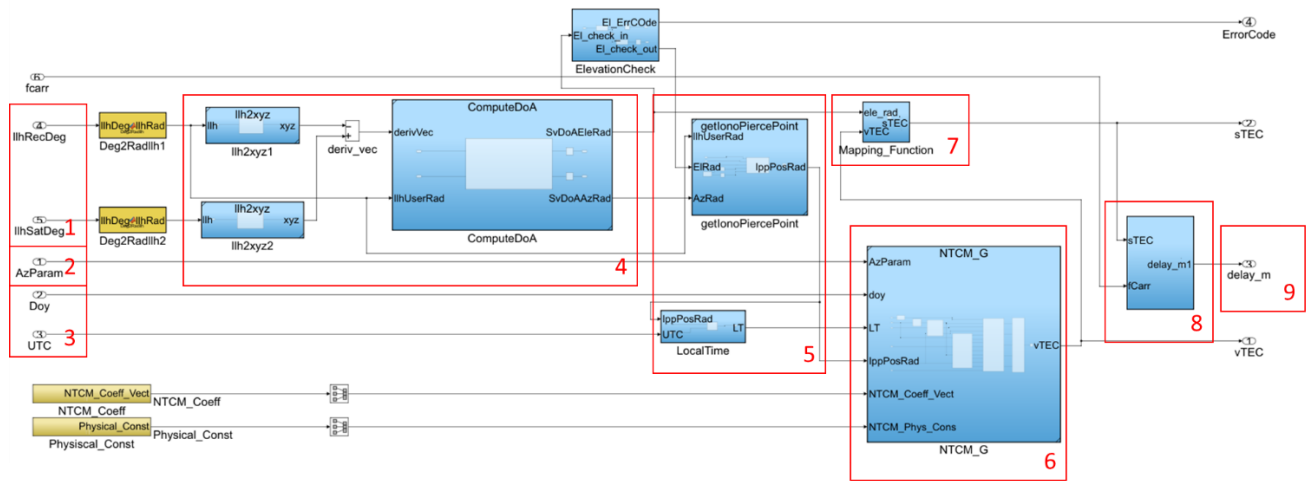
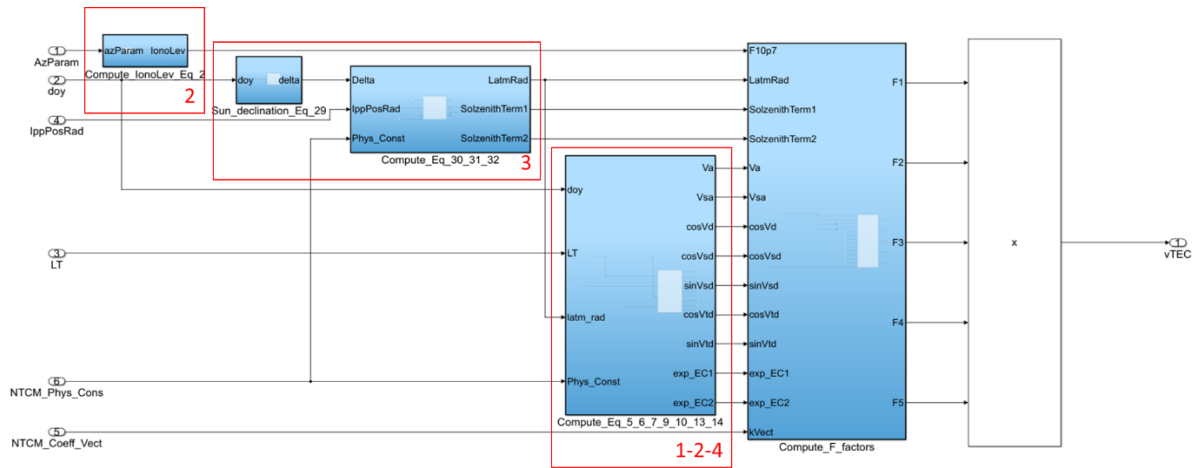

Figure 3: NTCM_Procedure_Core subsystem block
Figure 4: NTCM_G.slx
Figure 3 and Figure 4 allow to identify the correspondence between the step-by-step procedure and the model blocks implementation.
- The *NTCM_G.slx* implements the *Galileo NTCM G* model described in [1]. The approach considers five major dependencies of TEC, i.e., local time dependency (F_1), seasonal dependency (F_2), geomagnetic field dependency (F_3), equatorial anomaly dependency (F_4) and solar activity dependency (F_5). The dependencies are combined in a multiplicative way. As shown in Figure 4, the implementation groups the different equations described in [1] and encapsulate those sets in different sub-functions. The subsystems naming rule reflects this approach and the numbered red squares identify the link with the dependency factors (1-5).